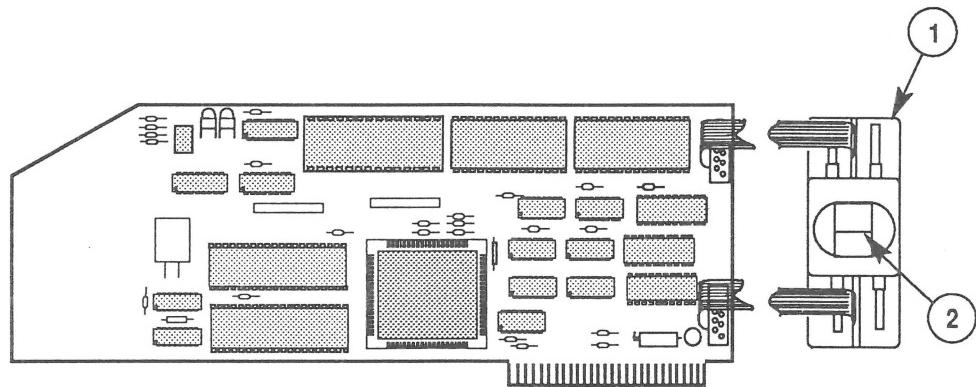

FIGURE 9
- IPL.11 Apple II Workstation Card (Figure 9)
APPLE II WORKSTATION CARD (Figure 9)